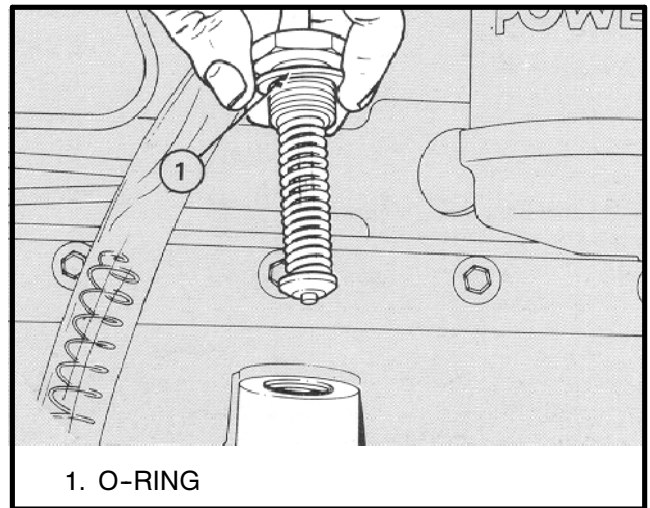

FIGURE 160. BY-PASS VALVE, OIL COOLER
1. See FIGURE 160. Remove the cap and remove the by-pass valve.
3. Use a new aluminum washer (1). Install the by-pass valve into the oil cooler and tighten the cap to 50 Nm (37 lbf ft).